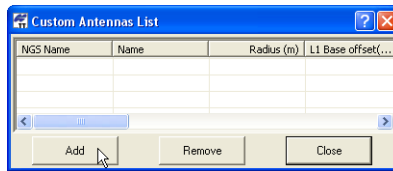

Figure 5-10. New Custom Antenna
- Click **Add** (Figure 5-10). To remove an antenna, click on the antenna's row and click **Remove**.